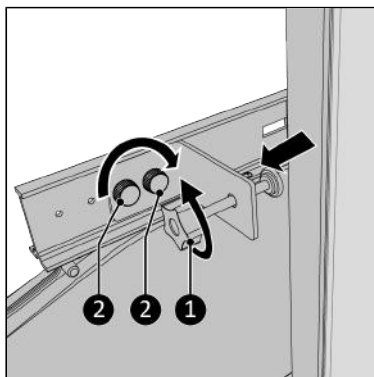

Figure 73.
13. Screw the clamping screw all the way back (Figure 73, pos. 1).
15. Screw the clamp bracket to the main rail using the two knob screws (Figure 73, pos. 2).